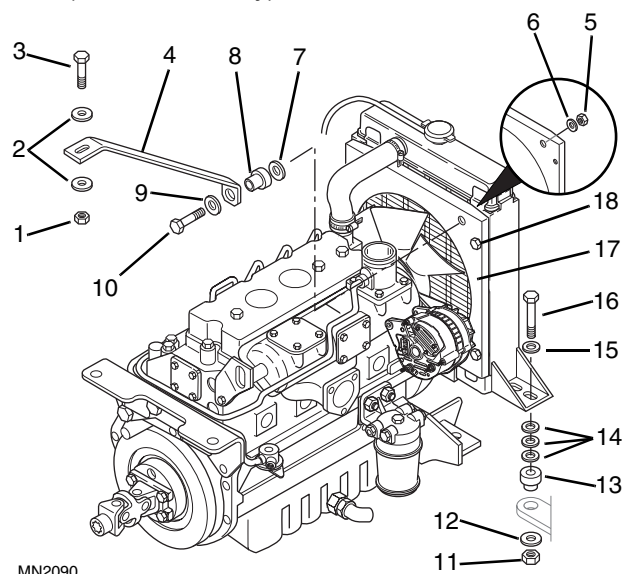

Figure 10-35 Radiator Removal
13. Remove the hex elastic locknut (Fig. 10-35, 1), flat washers (2) and capscrew (3) from the top of the upper radiator support (4).
14. Remove the hex elastic locknut (Fig. 10-35, 5), flat washer (6), rebound washer (7), isolator (8), rebound washer (9) and capscrew (10) from the bottom of the upper radiator support (4), and remove the radiator support.
15. Remove the hex elastic locknut (Fig. 10-35, 11), rebound washer (12), isolator (13), fender washers (14) flat washer (15) and capscrew (16) from the left and right side of the bottom of the radiator.
16. Remove the radiator, with shroud (Fig. 10-35, 17) and upper and lower radiator hoses from the vehicle.
17. Remove the hardware (Fig. 10-35, 18) securing the shroud (17) to the radiator, and remove the shroud.